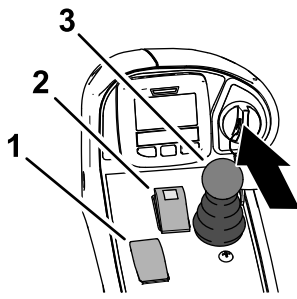

Figure 44
2. Ensure that the PTO switch is set to the DISENGAGE position (Figure 44).